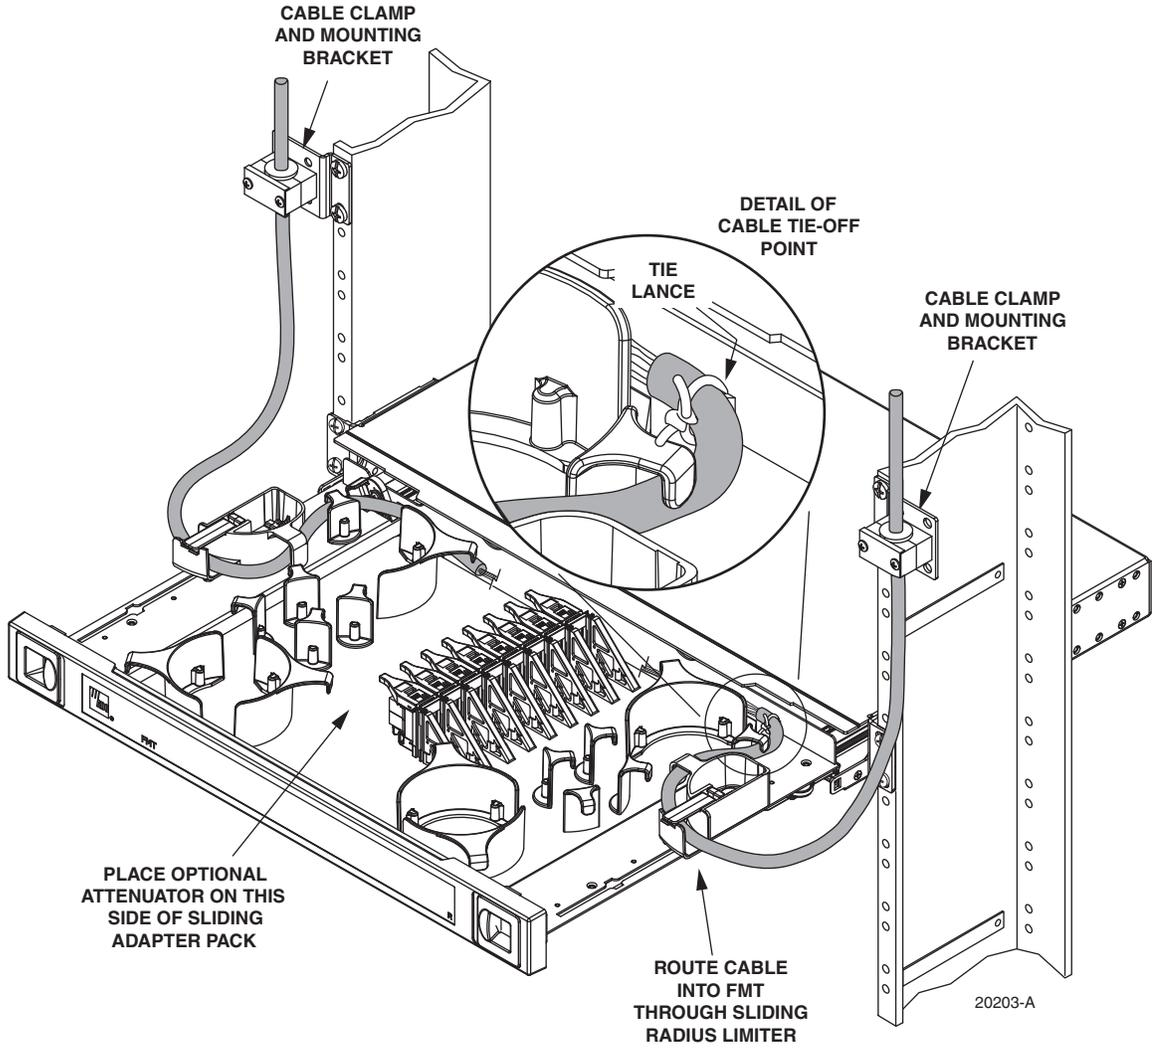
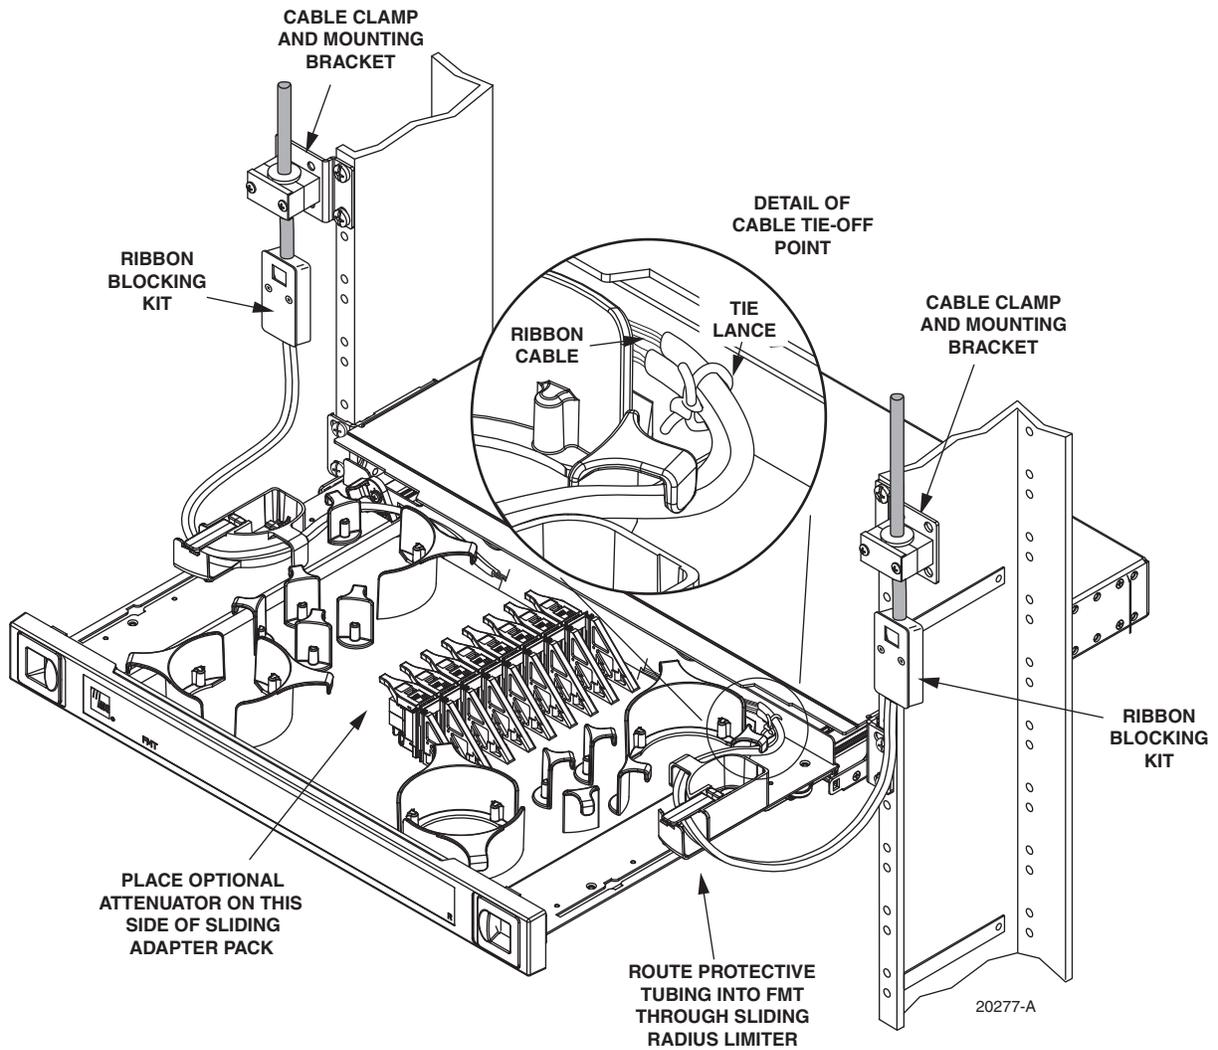

Figure 7. Routing and Securing Cable - Typical Configuration for IFC Stranded Cable
Figure 8. Routing and Securing Cable - Typical Configuration for Ribbon Cable
Figure 7 and Figure 8 show typical cable routing. Prior to routing cables, review the installation procedure corresponding to the configuration (provided in Subsection 6.3 through Section 6.6). Then use the following guidelines for routing and installing the cables or patch cords:
3. Secure the cable on the rack using a cable clamp such as shown in Figure 7 and Figure 8.
7. Secure the cables to the back of the FMT at the rear tie-off point (see Figure 7 and Figure 8). Note that a tie-off point is provided on both the left and right side.
Attenuators decrease the optical power in a fiber by a specific or adjustable amount. Once the desired level of attenuation is determined, fixed attenuators may be inserted in the fiber optic line to deliver a precise output. Optional attenuators are installed on tab side of the sliding adapter packs. See Figure 7.